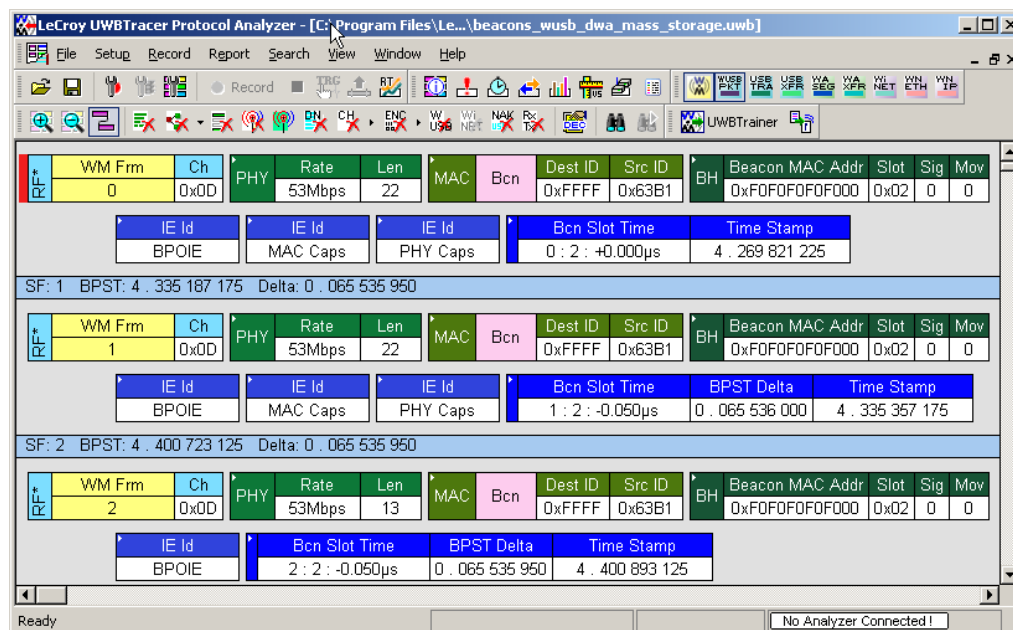

Figure 3.1 UWBTracer/Trainer Main Window
Step 1 Select **Start > Programs > LeCroy > UWBTracer > LeCroy UWBTracer** to display the application main window (Figure 3.1).